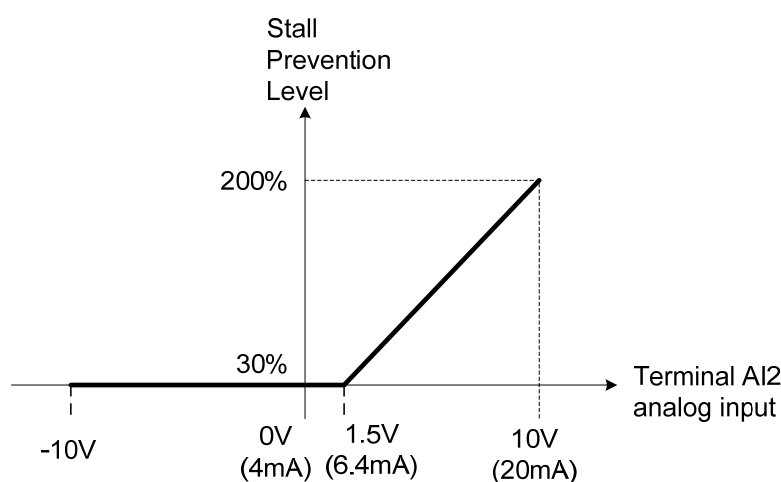

Figure 4.3.46 Stall prevention level adjustment in operation
(8) Stall prevention Level During Running (Setting = 7)
- . Application example: If the motor capacity is less than that of the inverter, the operation and the stall prevention of the motor is based on the factory settings, multi-function analog input AI2 can be used to reduce the stall prevention level in operation. Please refer to the following figure 4.3.46.